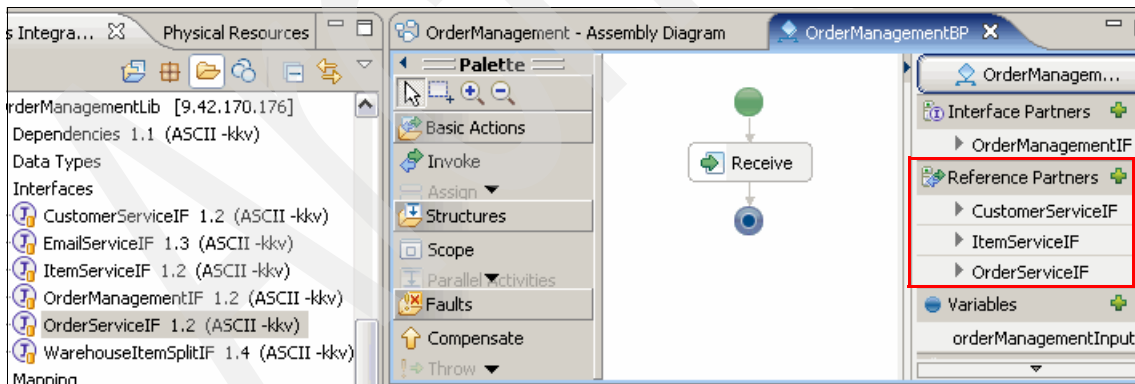

Figure 3-13 OrderManagementBP Reference Partners after adding CustomerServiceIF
2. Repeat this process to add the **ItemServiceIF** and **OrderServiceIF** to the OrderManagementBP. See Figure 3-13.